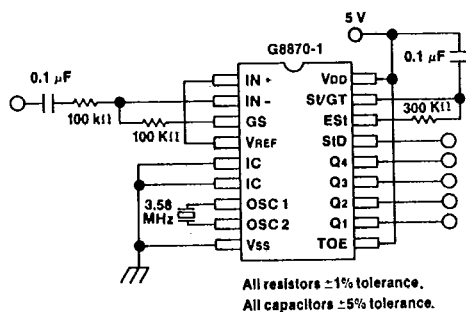

Figure 1. Single Ended Input Configuration Test Circuit
14. Referenced to Figure 1. Input DTMF tone level at -28 dBm.
The value of t_{DP} is a parameter of the device and t_{REC} is the minimum signal duration to be recognized by the receiver. A value for C of 0.1 uF is recommended for most applications, leaving R to be selected by the designer. For example, a suitable value of R for a t_{REC} of 40 milliseconds would be 300K. A typical circuit using this steering configuration is shown in Figure 1. The timing requirements for most telecommunication applications are satisfied with this circuit. Different steering arrangements may be used to select independently the guard-times for tone-present (tGTP) and tone-absent (tGTA). This may be necessary to meet system specifications which place both accept and reject limits on both tone duration and interdigit pause.
In a single-ended configuration, the input pins are connected as shown in Figure 1 with the op-amp connected for unity gain and VREF biasing the input at $\frac{1}{2}V_{DD}$. Figure 6 shows the differential configuration, which permits the adjustment of gain with the feedback resistor Rs.